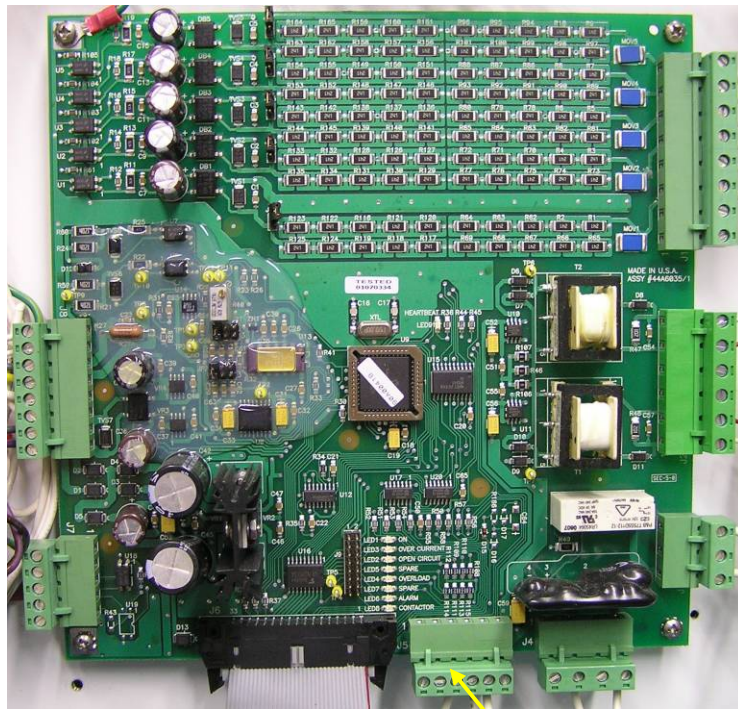
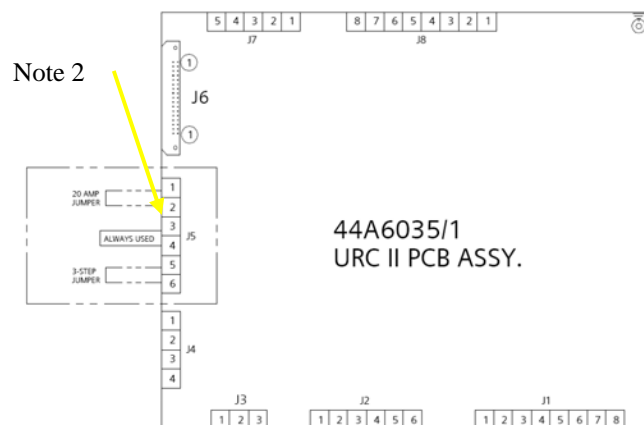

Figure 1: PCB
Figure 2: Drawing of PCB
1. After opening the regulator enclosure, locate the main PCB board (44A6035/1) shown in Figure 1. Next locate the Phoenix connector J5 indicated by Note1 on Figure 1 and Note 2 on Figure 2. Remove the Phoenix Connector from the PCB by gently pulling away from the board.